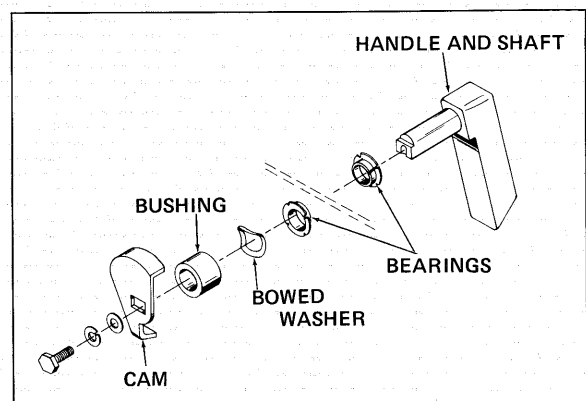

Figure A-1—Engine Cover Latch Assembly
- B. Install support plate on motor leg cover — front and secure with five (5) screws.
- D. Install remote control cable bushing and cap on support plate and secure with three (3) screws.
- E. Install battery cable grommet and secure with one (1) screw.
- F. Install engine cover latch bracket with roller and secure with two (2) screws.
- H. Install deflection stop on support plate approximately 1/4 inch from cylinder head and secure with four (4) screws and spring lockwashers.
- 1. Install two (2) nylon bearings in support plate.
- 3. Install bowed washer, bushing and latch cam on latch shaft as shown in figure A-1.